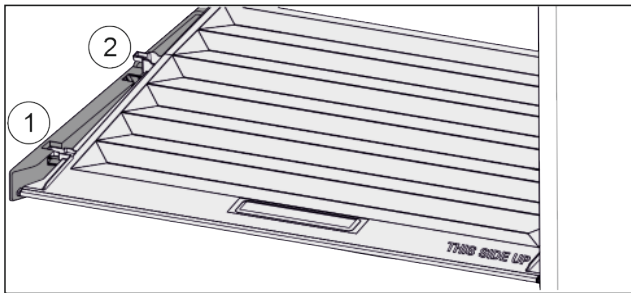

Fig. 41
- ▶ Pull the lid up at the front in the retaining parts to the opening Fig. 41 (1).
- ▶ Lift from the back and pull it up and out Fig. 41 (2).